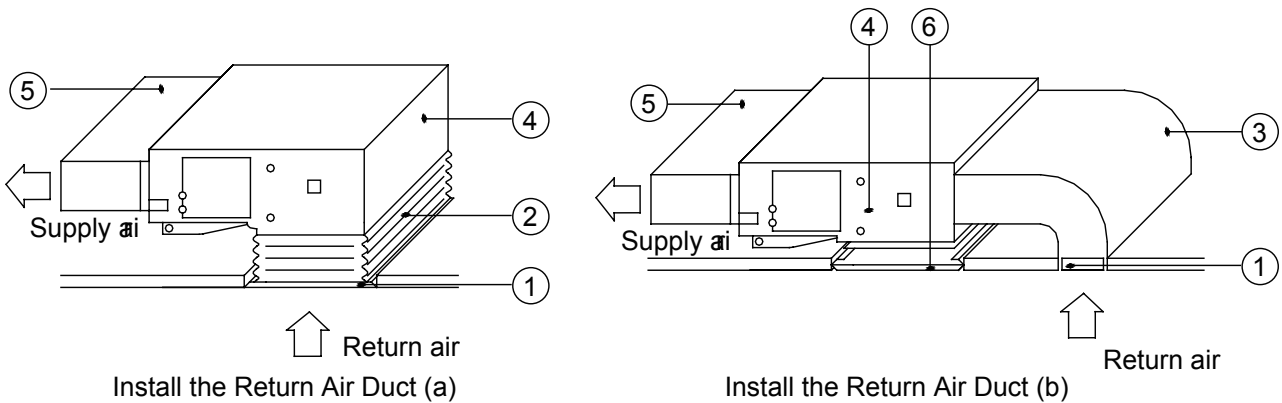

Fig 4.4.10
- (2) If air return from the bottom is needed, switch the positions of square flange and air-return cover.
- (3) Use a clincher to connect air-return duct to the air-return opening of indoor unit. The other end of air-return duct connects with the air-return louver. In order to adjust the height conveniently, you can make a folded canvas duct and have it strengthened by 8# iron wire.
- (4) Air return from the bottom will produce more noise than air return from the back. So we suggest you to add a noise damper and static pressure case to lower noise if you choose air return from the bottom.
- (5) Select the appropriate installation way based on actual construction and maintenance needs, as shown in Fig 4.4.10.